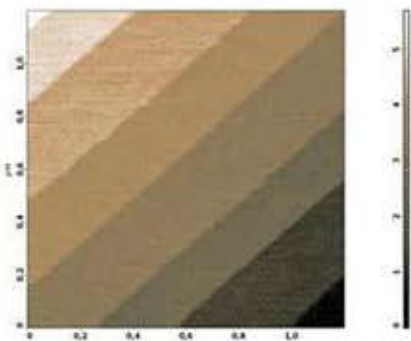
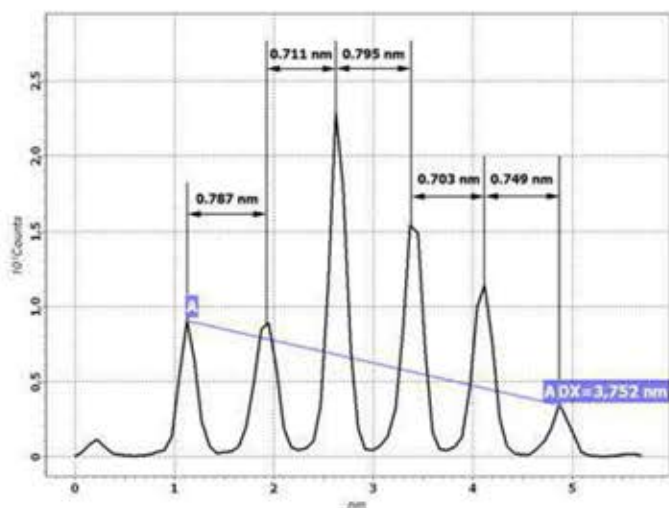

Fig.2A AFM image 1,2X1,2μm
Fig.3A Height spectra
- After obtaining good quality AFM-image of the sample surface with several steps use the software filter to flatten image so that every single step becomes horizontal (Fig. 2A and 2B). Choose the area on AFM-image for obtaining height spectra by using possibilities of AFM software. Please, choose the area with maximum number of steps for better statistics. After obtaining height spectra with peaks corresponding to each step, measure the interpeak distances. Note that distances between neighboring peaks may vary a little (see Fig.3A and 3B), so it is useful to average distances between peaks by measuring distance between far standing peaks and dividing the measured value by the number of included interpeak distances (A-A on Fig. 3A and 3B). Change the scanner calibrating constant while average interpeak distance becomes 0.75 nm.